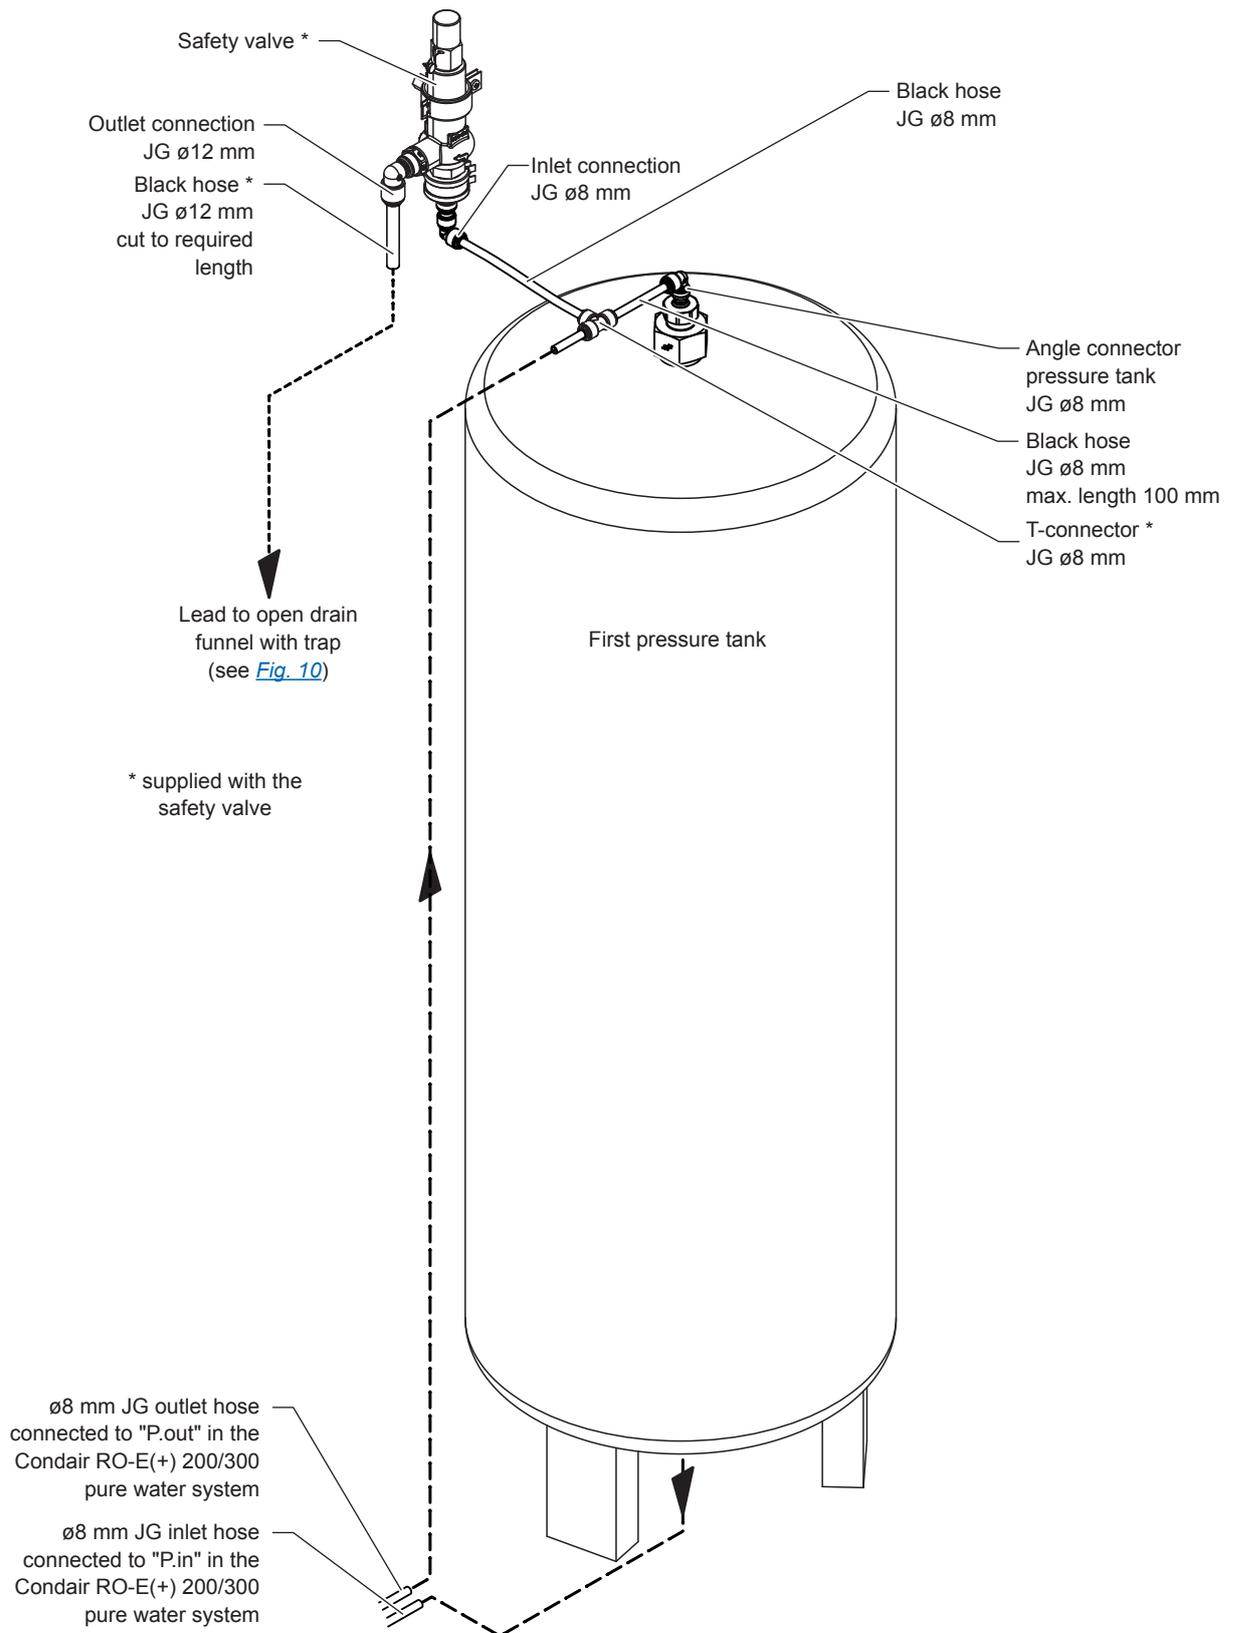

Fig. 16: Connecting the pressure tank safety valve to the Condair RO-E(+) 200/300 pure water systems
2. Connect the open hose ends of the cut hose to the  $\varnothing 8$  mm JG T-connector as shown in Fig. 16.